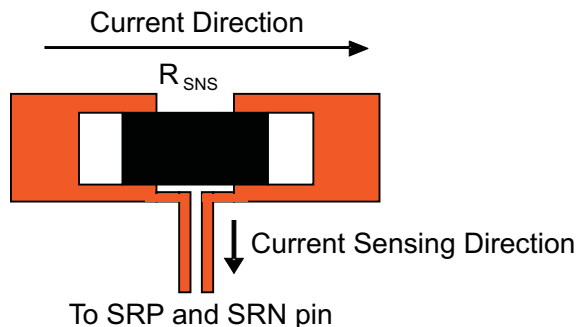

Figure 25. Sensing Resistor PCB Layout
3. The charging current sensing resistor should be placed right next to the inductor output. Route the sense leads connected across the sensing resistor back to the IC in the same layer, close to each other (minimize loop area) and do not route the sense leads through a high-current path (see Figure 25 for Kelvin connection for best current accuracy). Place decoupling capacitor on these traces next to the IC.